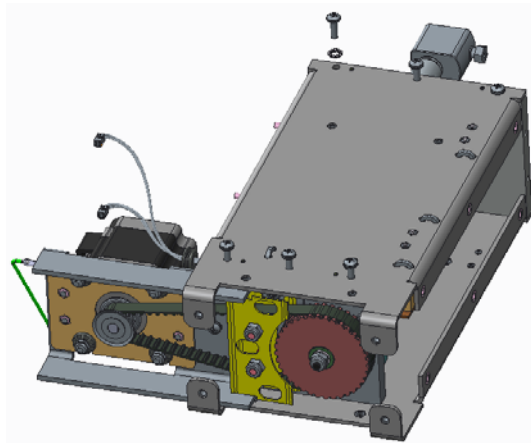

Figure 7-6 Module on its side
4. Rotate the large timing pulley in Figure 7-6 until the sensor flag is approximately midway between the two home sensors.